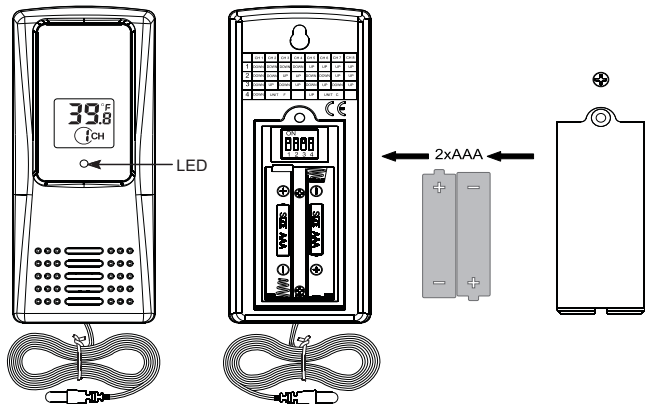

Figure 1
1. Remove the battery door on the back of the sensor by removing the set screw, as shown in **Figure 1** .